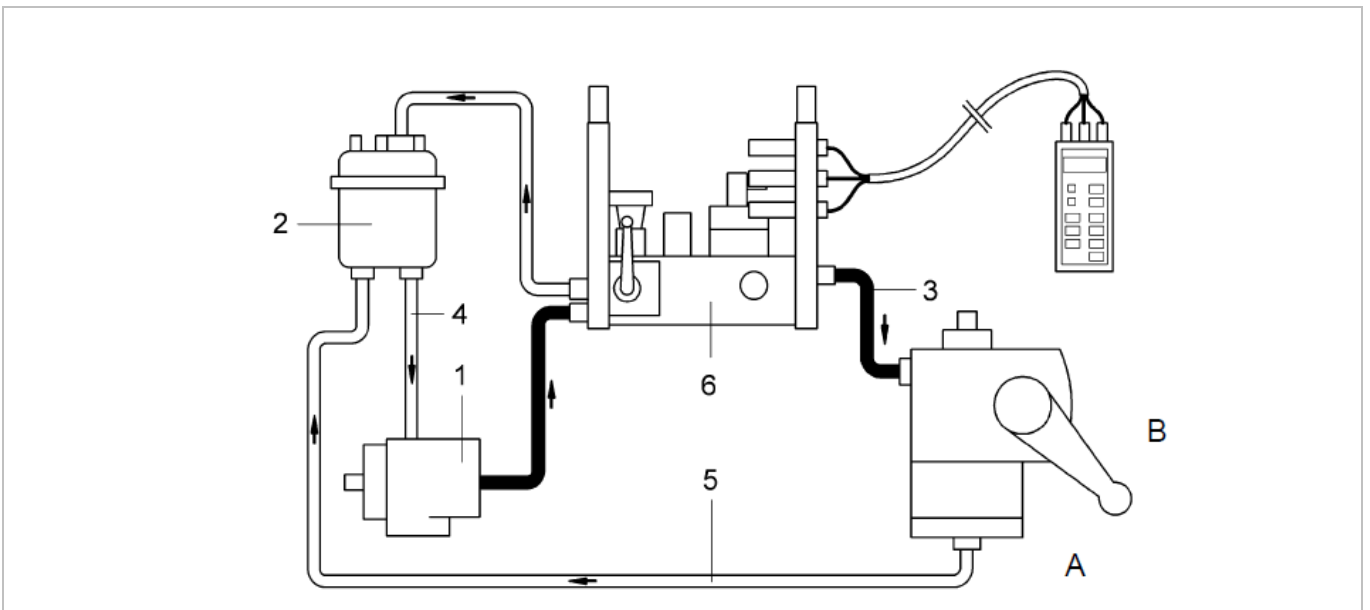

Fig. 10: Fit Tool [1]
1. Fit a pressure gauge (pressure range up to 250 bar) or tool [1] (Servotest 600) to the pressure line between the pump and the steering gear (see Fig. 10).
- ▶ If the setting takes place at set screw (128) the drop arm will be caused to move in direction “B” (Fig. 10).
- ▶ If the setting takes place at set screw (20) the drop arm will be caused to move in direction “A”.